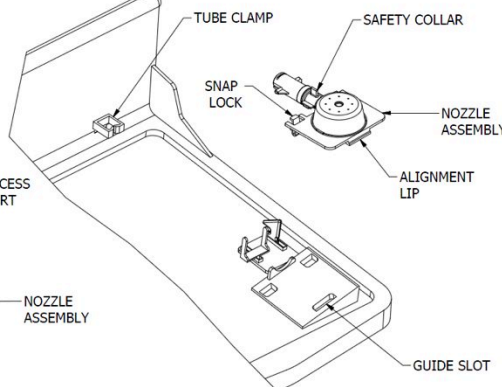

FIGURE 12
- B. After securing Cartridge tube with Tube Clamp, Tilt Nozzle Assembly to insert alignment lip into guide slot on Tray Assembly. (Ref Figure 12)